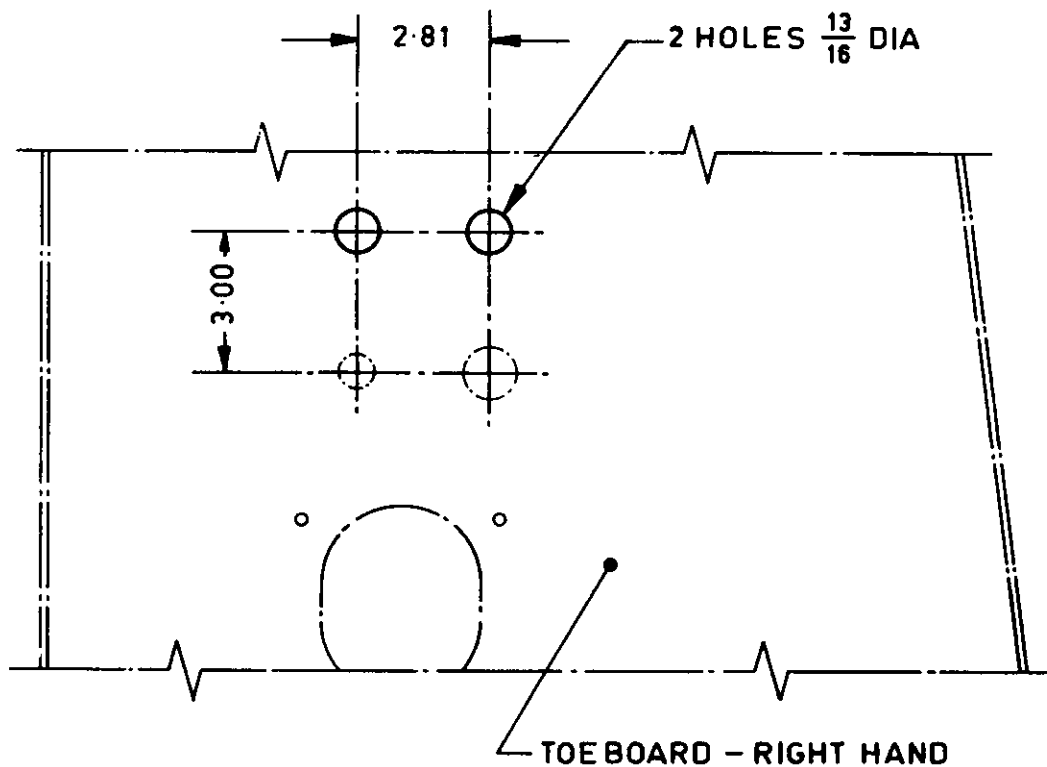

FIG. 8 - DRILLING TOE PANEL ASSEMBLY
73. Drill two 13/16 inch diameter holes in the toe panel assembly in accordance with fig 8.